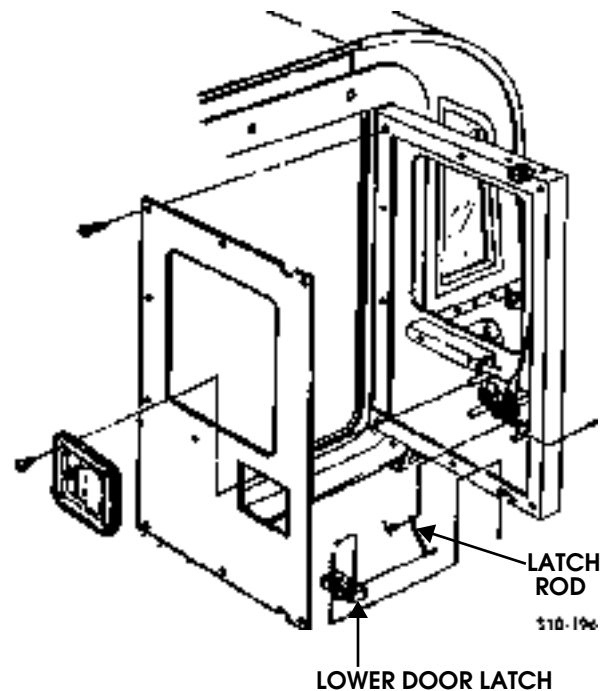

Figure 10-149: Door Latch and Latch Rod Replacement
2. Remove four screws and interior door handle from door (Figure 10-149).
1. Secure lower door latch to door with three screws, lockwashers, and nuts (Figure 10-149).
3. Secure close-out panel to door with twelve screws (Figure 10-149).